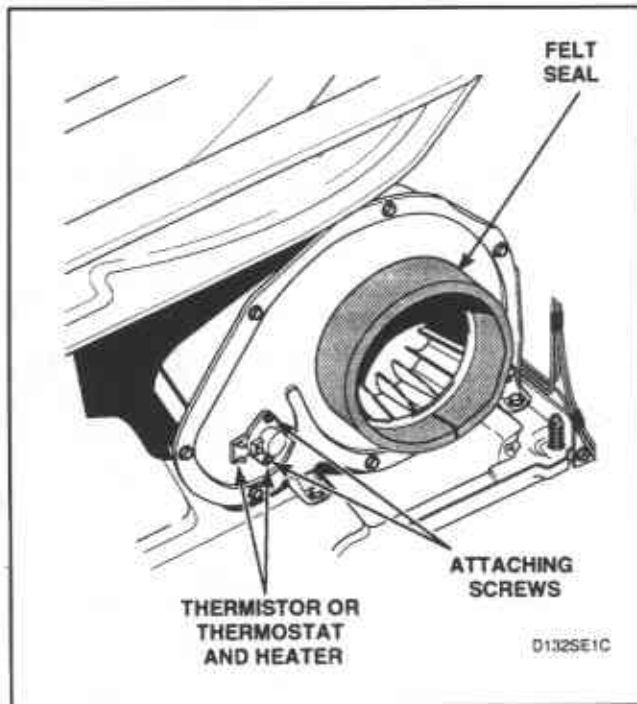

Figure 27
- c. Disconnect wires and remove thermostat attaching screws, *Figure 27*, and remove thermostat and heater.
IMPORTANT: When reassembling, be sure felt seal on exhaust fan cover makes airtight seal on flange of duct, *Figure 27*. If the seal is installed improperly, the airflow through the exhaust system will be restricted which can adversely affect dryer performance.